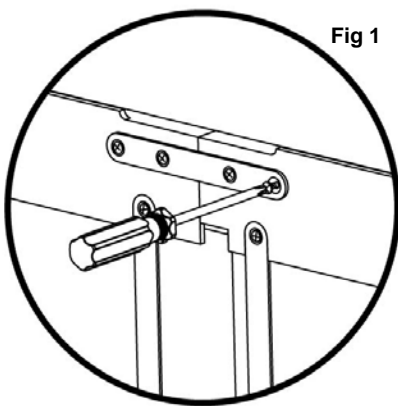

Fig 1
2. Unfold the bath panel and attach the securing brace by loosely inserting each of the four bolts to ensure that the brace is correctly lined up, and then fully tightening each bolt starting from the centre out. Fig 1